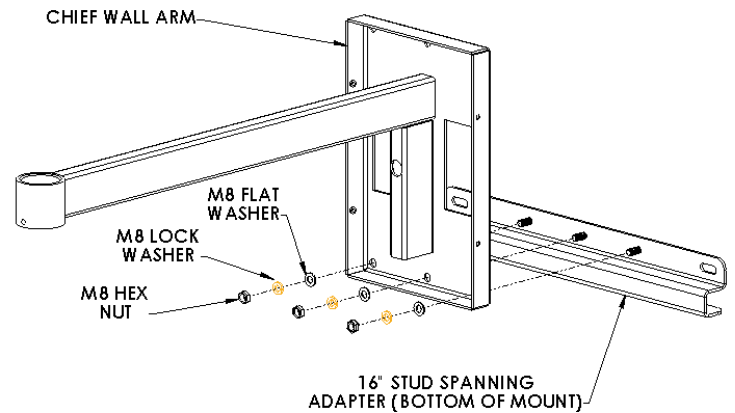

Figure 3. Attach Stud Spanning Adapter to Wall Arm
1. Locate the wall arm (10), bottom 16" stud-spanning adapter (20), three M8 hex nuts (80), three M8 lock washers (70), and three M8 flat washers (60).
2. Attach the wall arm (10) to the bottom 16" stud-spanning adapter (20) using three M8 hex nuts (80), three M8 lock washers (70), and three M8 flat washers (60). Tighten hex nuts. See Figure 3.